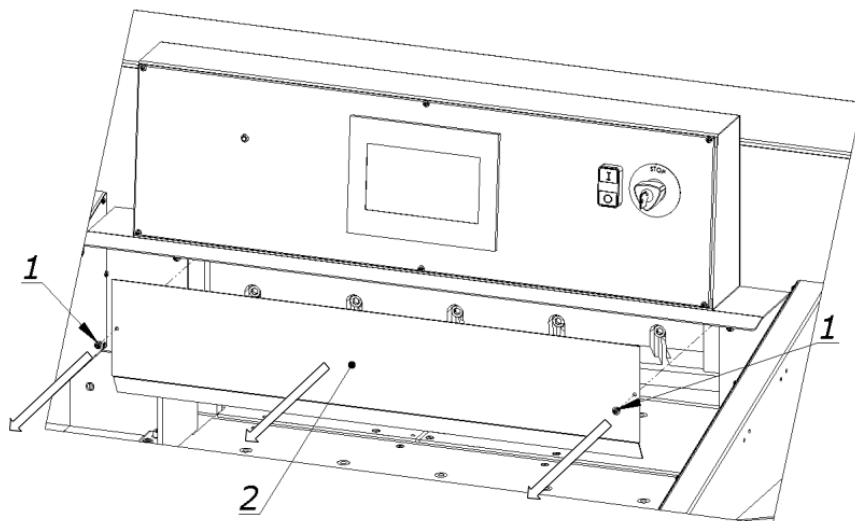

Figure.22
8.1.1.4 Remove the two screws 1 (fig.22) securing the cover 2 and remove the cover 2.